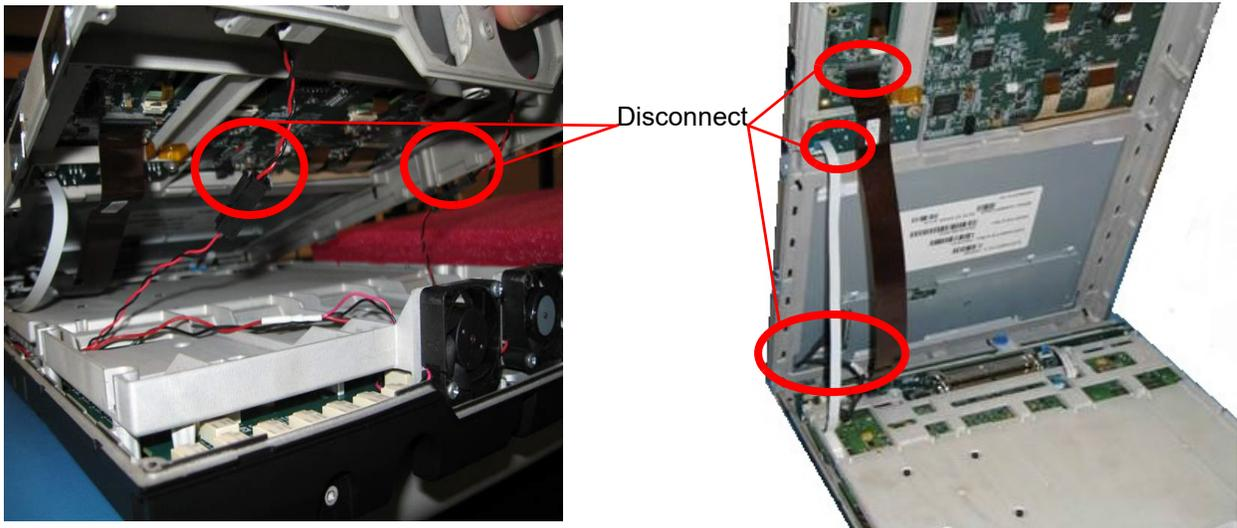

Figure 6.5 User Interface Removal
- 10 Partially lift the UI from the Base as shown in Figure 6.5. Be careful as opening too far may damage speaker wires.
- 1 Place User Interface on Base Assembly as shown in Figure 6.5